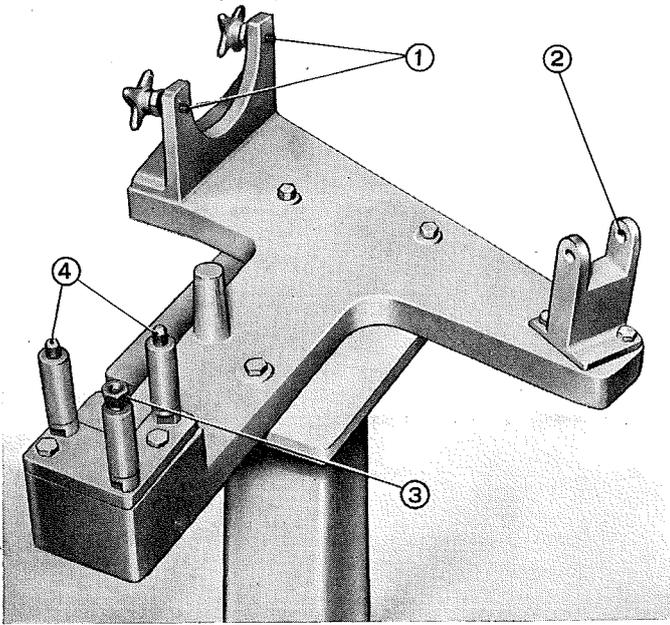
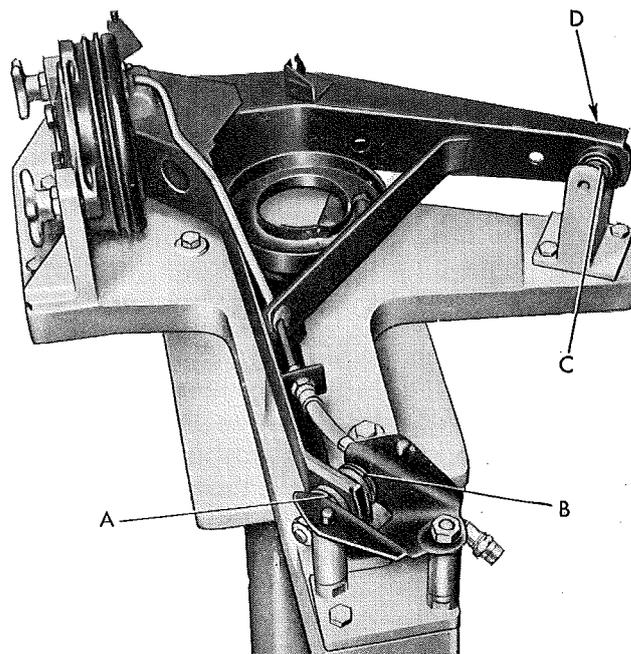
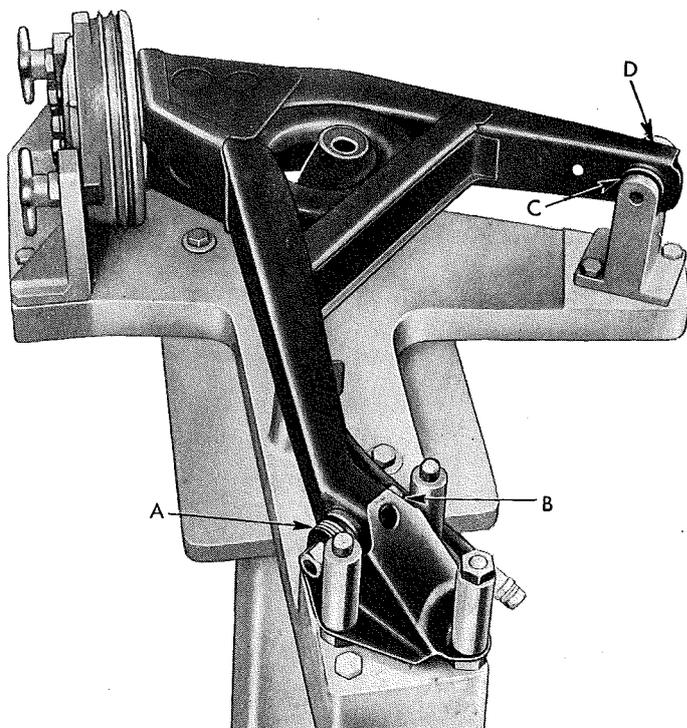

Fig. 250 - Fixture A. 66064, for swinging arm inspection and adjustment.
Fig. 253 - Adjusting right rear suspension swinging arm on fixture A. 66064.
Fig. 254 - Adjusting left rear suspension swinging arm on fixture A. 66064.
— Tighten the clamp screws (1, fig. 250) on wheel drum.
— Couple swinging arm inner member to seat (2, fig. 250) on fixture.
— Fit swinging arm external support holes on fixture pins (3, fig. 250).
**NOTE -** Replace fixture pins (3, fig. 250) to external support holes and install suspension arm right side up (fig. 253) or upside down (fig. 254), according to whether the right or left hand arm is involved.
To adjust the swinging arm, use fixture A. 66064 (fig. 253).
At points A and B (fig. 253), between the « estendblock » and the swinging arm-to-body front mounting bracket, fit six shims, three on each side. For shim centering use alignment bar A. 66057; next, while
Then, at points C and D (fig. 253), insert the number of shims required to fill in the gap between the « estendblock » and the two fixture shoulders.